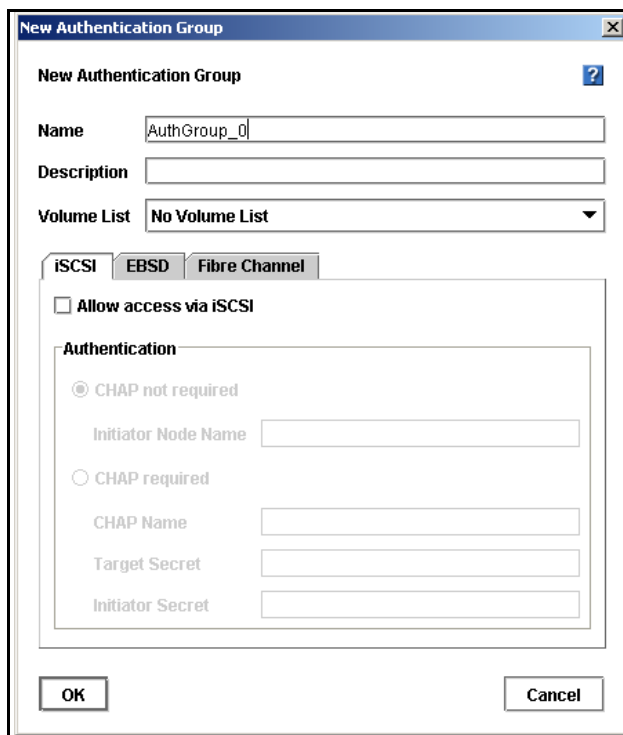

Figure 193. Creating a New Authentication Group
3. From the Tasks menu, select New Authentication Group. The New Authentication Group window opens, shown in Figure 193.